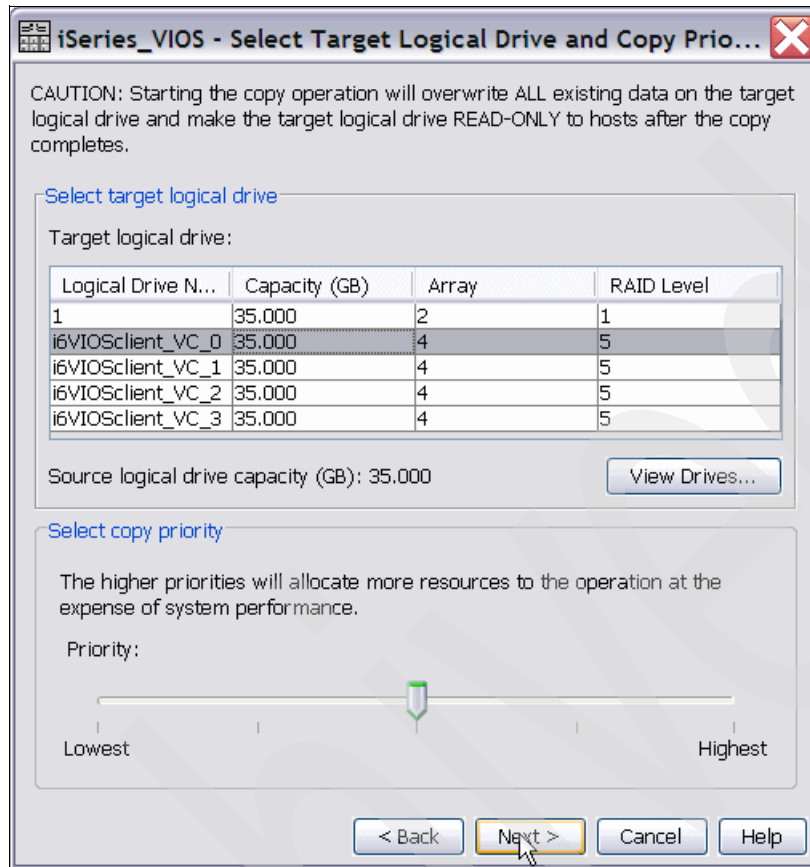

Figure 8-23 Select Volume Copy target drive
6. On the next window select the Volume Copy target logical drive. See Figure 8-23.